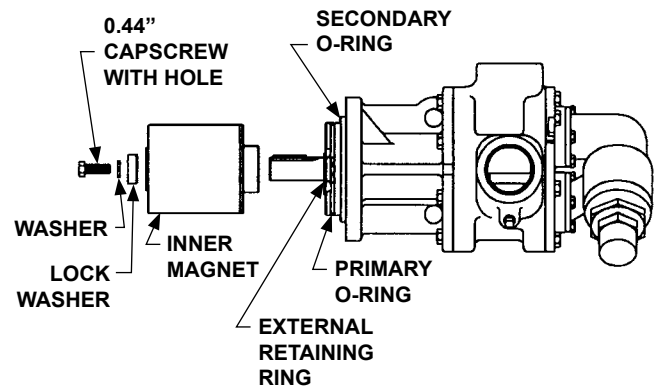

FIGURE 11
4. Insert a brass bar through a port between two rotor teeth and loosen the cap screw holding the inner magnet to the shaft (See Figure 11). Do not forget, this is a very strong magnet. If pump disassembly is required, remove the external retaining ring.